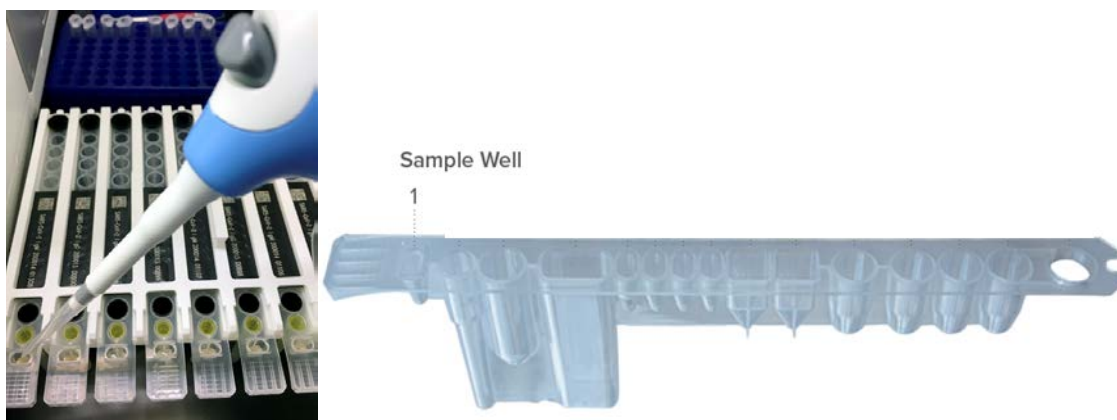

Figure 8: Test Cartridge Showing Sample Well
5. Using a micropipette, add 80µL serum to the sample well of each cartridge as shown in Figure 8.